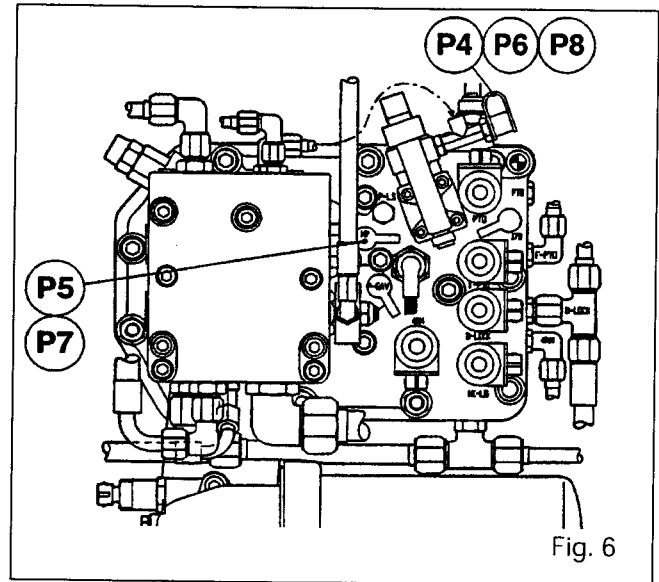

Fig. 6
- Connect a pressure gauge to the pump controller (Fig. 6 and 8) and read: XLS pressure = **P8**.